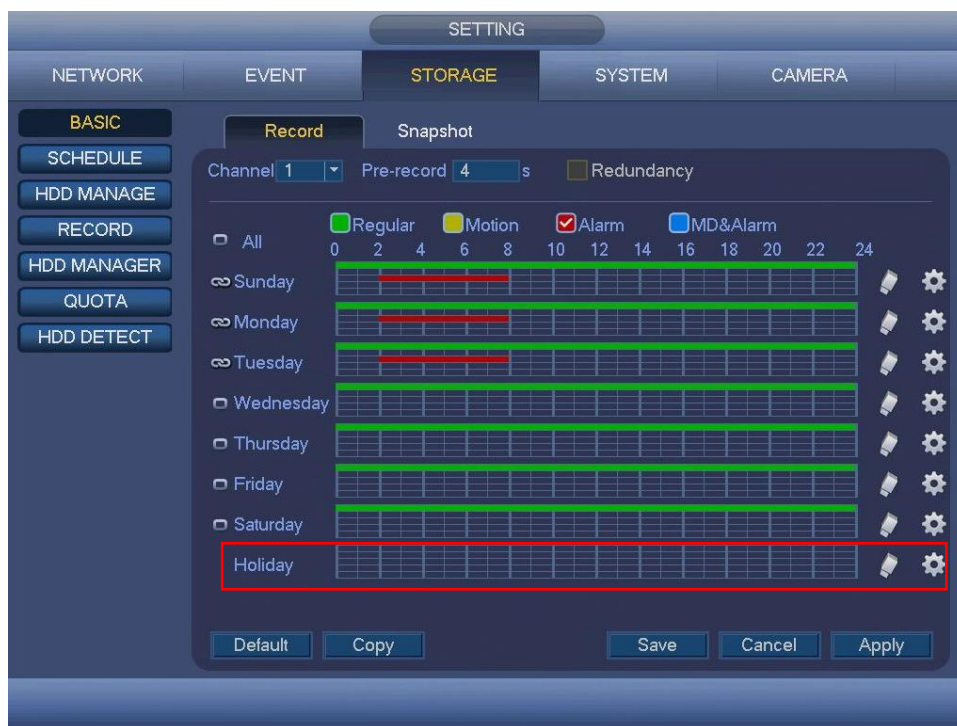

Figure 2-26
In the main menu, from SETTING -> STORAGE -> SCHEDULE, you can go to schedule menu. See Figure 2-26.
- Period setup: Click button  after one date or a holiday, you can see an interface shown as in Figure 2-26. There are four record types: Regular, Motion, Alarm, MD & Alarm.